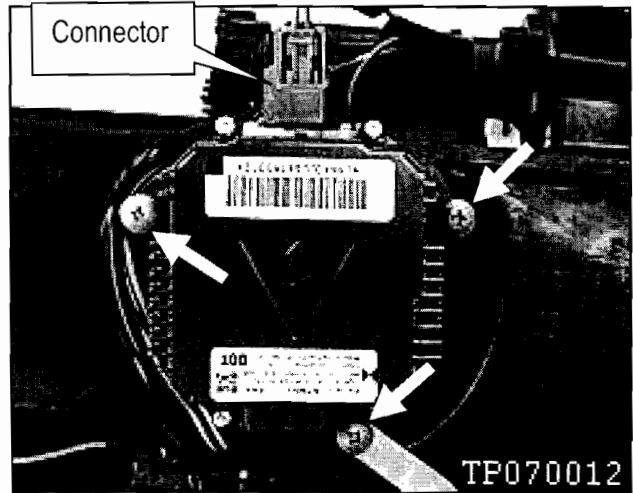

Figure 10
- a. Disconnect the HID control unit connector shown in Figure 10.